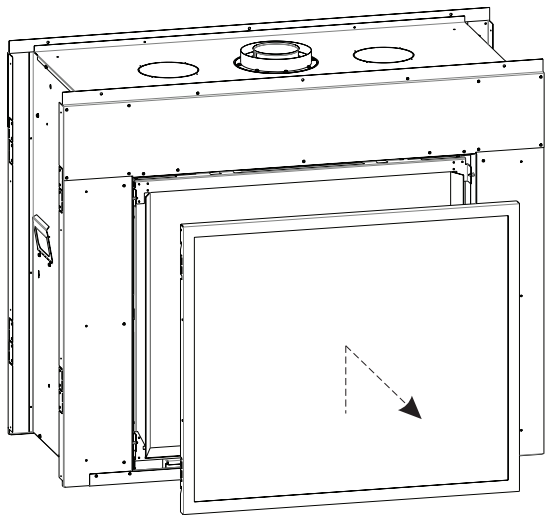

Figure 62
2. Use the Glass Latch Tool to grip the latch bar and pry it over the Glass Frame hook flanges. Tilt the Glass Frame towards you and pull upwards to remove it from the unit. **See Figures 62 and 63.**
- Check the barrier screen for fit and structural integrity. **See Figure 62.**